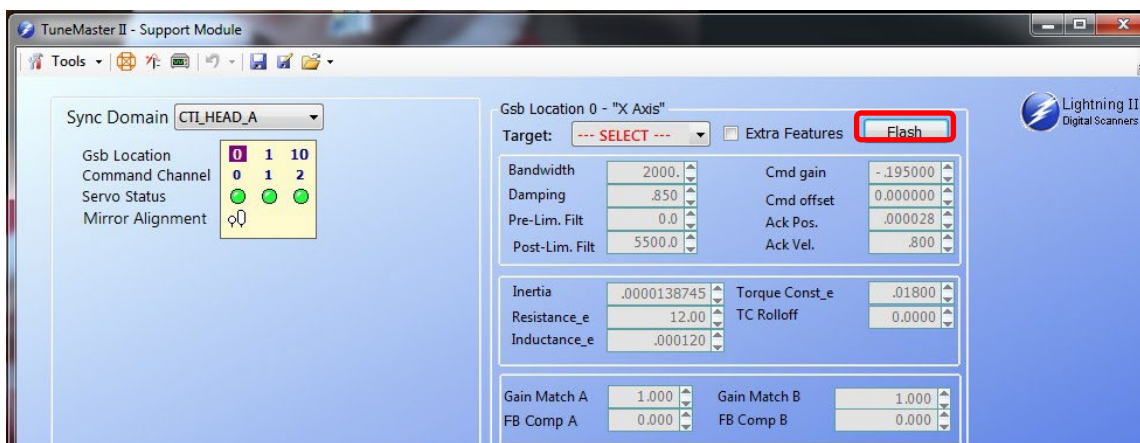

Figure 9 - Flash the Loaded Tune to X-servo Board
- Click the 'Flash' button to flash the new tune to the X-servo board (Figure 9).